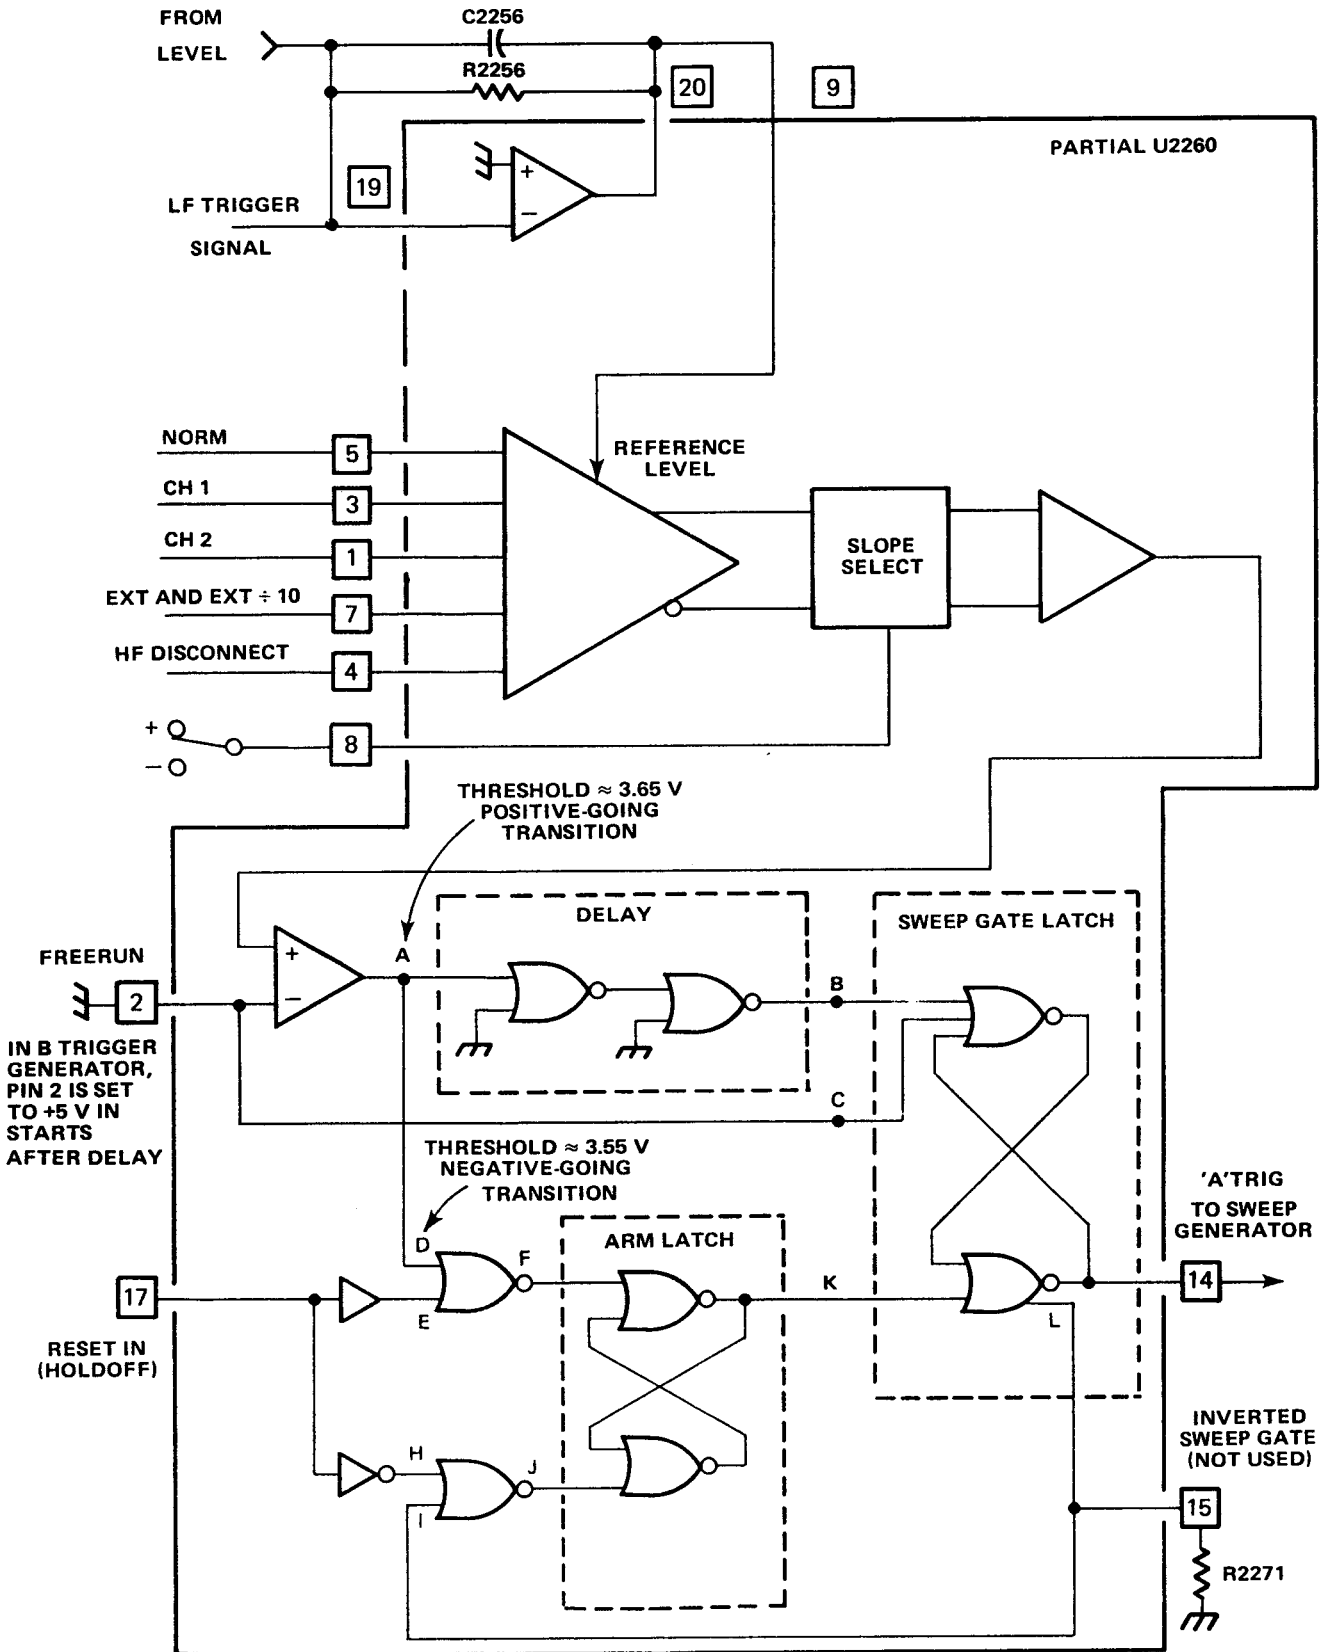

Figure 4-5. A trigger generator.
**(2) A Trigger Generator.** The A Trigger Generator consists of U2260 and associated circuitry. Figure 4-5 shows a simplified diagram of the A Trigger Generator.
**(a) Sequence of Events During Trigger Generation.** The following discussion will follow the sequence of events in the A Trigger Generator. Refer to Figure 4-5 throughout the discussion.
**4 Beginning of Holdoff.** At the end of A Sweep time, the holdoff gate at pin 17 of U2260 steps HI. This causes point H to step LO. Point I is set to LO whenever the sweep gate (at pin 14) is HI. With points H and I both LO, point J momentarily steps HI. This resets the arm latch causing point K to go HI. When point K goes HI, the sweep gate goes LO and point I goes HI setting point J LO. The holdoff condition described in paragraph 4-3. b. (2) (a) 1 is restored.
**(b) Slope Selection.** The slope of the trigger input signal, on which a sweep gate is generated, is determined by the voltage connected to pin 8 of U2260. When the voltage is negative, the signal at point A is inverted (see Figure 4-5).
**(3) B Trigger Generator.** The B Trigger Generator operates in the same manner as the A Trigger Generator except in the STARTS AFTER DELAY position of the HORIZ DISPLAY switch. In the STARTS AFTER DELAY mode, +5 volts is connected to pin 2 of U2160 through S2100 and S2650 (see Figure 4-5). This disconnects the trigger signal from point B, sets point D LO, and sets point C HI. At the end of holdoff, point E goes LO causing point F to go HI. This sets point K LO and, because of the HI always present on point C, causes a sweep gate to be generated.